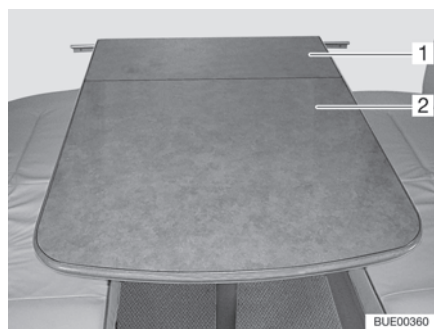
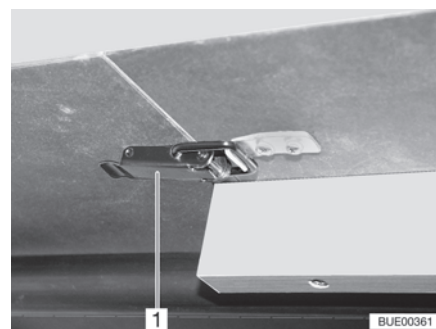

Fig. 94 Insertable table extension
Fig. 95 Catch
- Open catches (Fig. 95,1).
- Raise the table-top (Fig. 94,2) slightly and pull it out as far as possible.
- Insert the table extension (Fig. 94,1) and secure it with the catch (Fig. 95,1).
- Remove table extension (Fig. 94,1) and lay it aside.